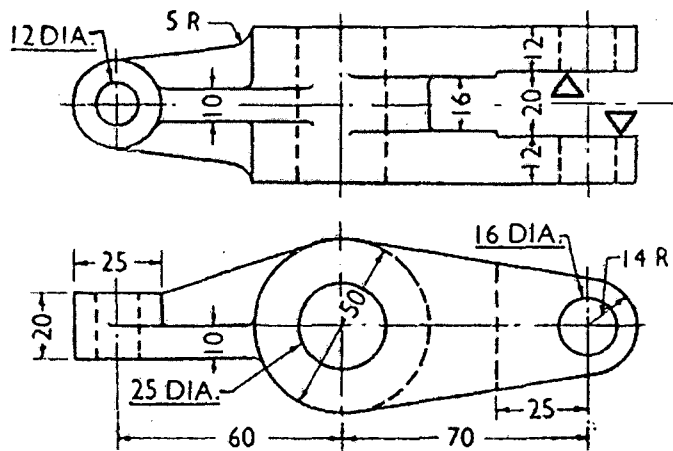

Fig.13.a
13. b) Design a Turning Fixture for use when boring the $\phi 75$ hole in the component shown in Fig. 13.b.
- i) Give a neat operation chart. (2)
- ii) Draw two views of the Fixture. (12)
- iii) Specify appropriate fits and tolerances for critical parts. (3)
- iv) Dimension the views and give a neat parts list (3)